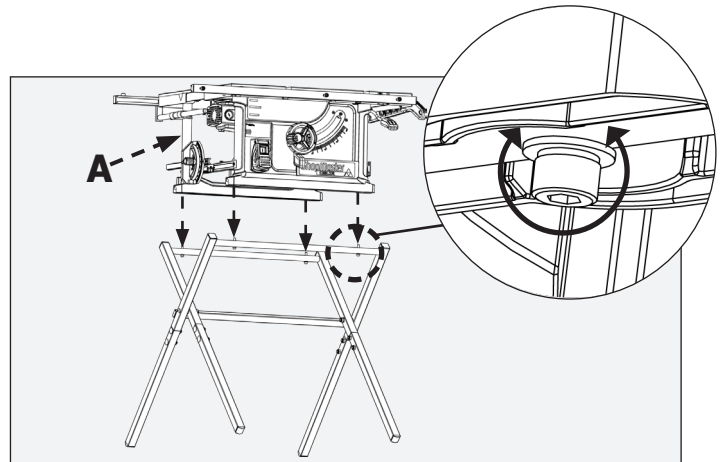

FIGURE 7
Place saw (A) on stand assembly, while aligning the screw holes in the saw stand with the threaded holes in the saw base (FIGURE 7).